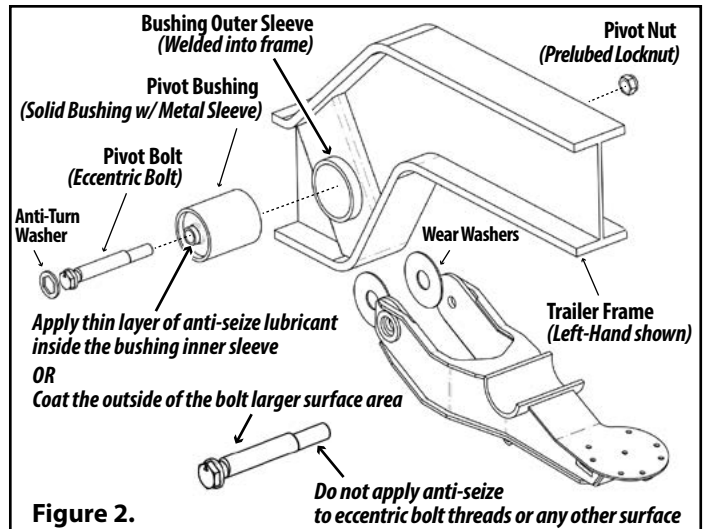

Figure 2.
1. Remove pivot bushing assembly from the outside bushing sleeve welded to the frame by grinding away the four (4) welds on each side of the sleeve.
2. Position (center) new bushing into the outer bushing sleeve (Figure 2).